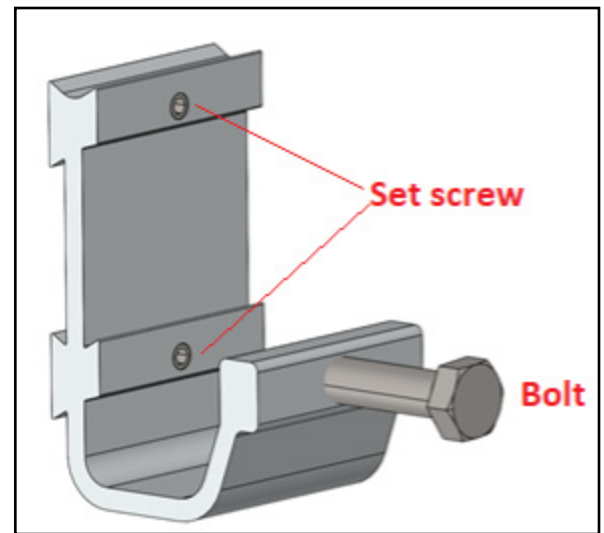

FIG 4.
Screw in two set screws (D) and a bolt (E) into the two J-hooks (F). Do not tighten the screws too far, as this will prevent the J-hook from sliding horizontally onto the dock frame during installation. FIG 4.